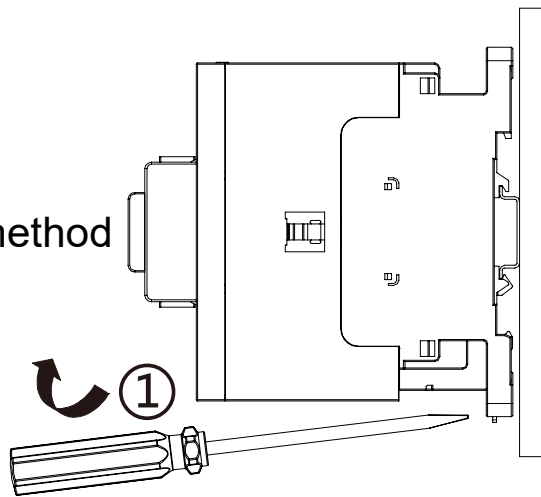
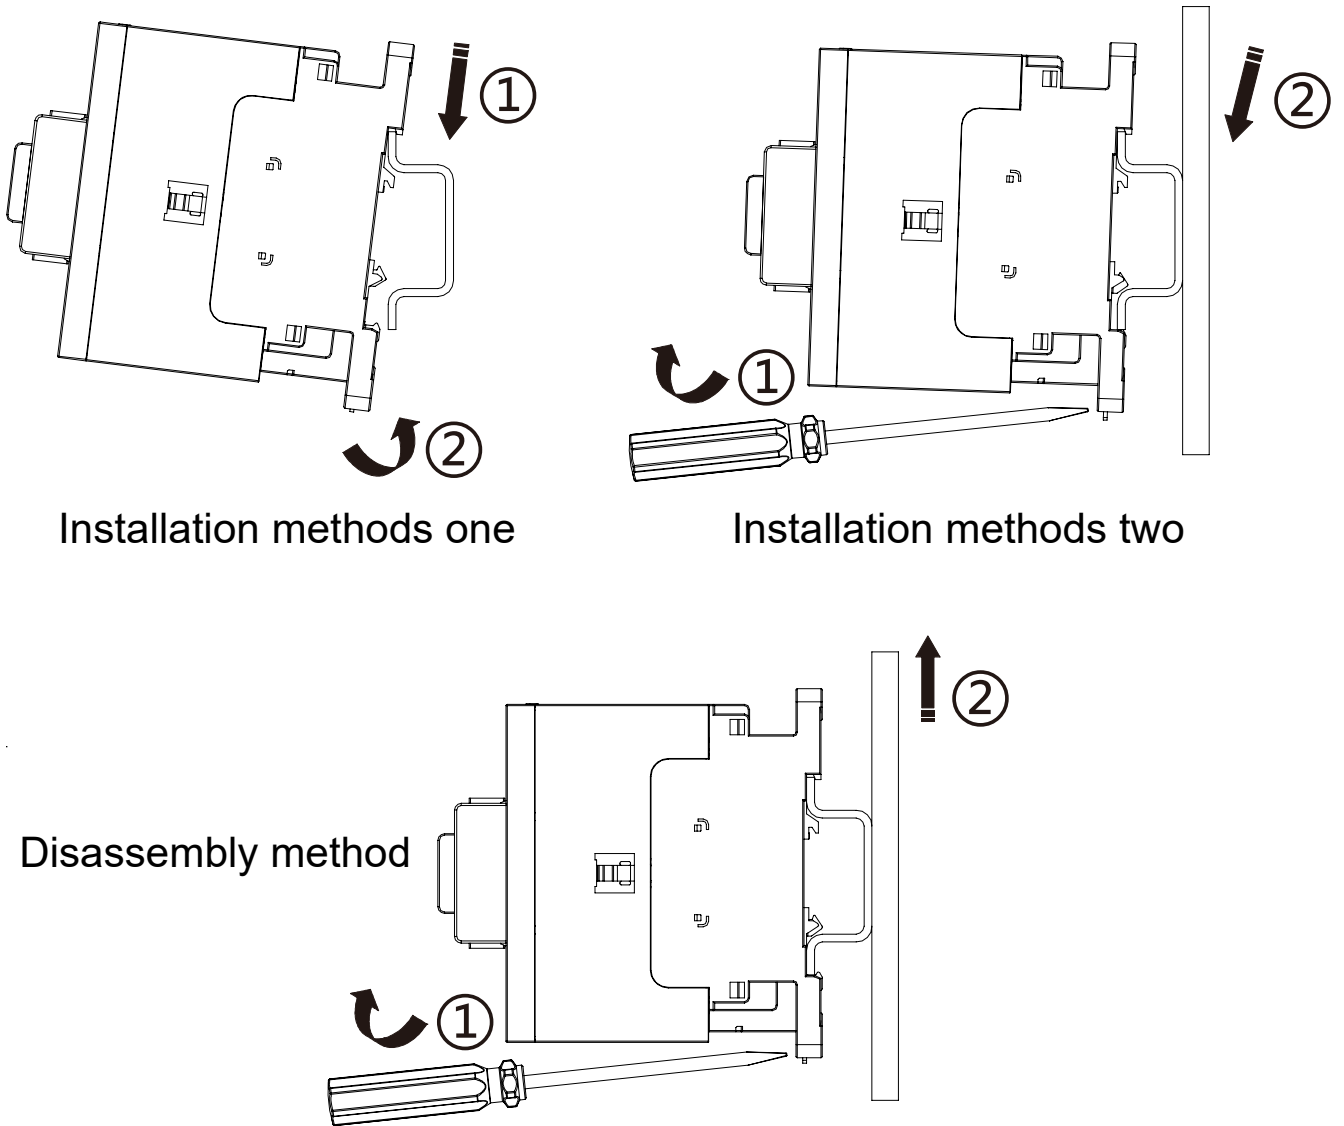

Fig. 4 HDCX-80~95 DC Installation with 35mm DIN railand disassembly methods
Fig. 5 HDCX-80~95 DC Installation with 75mm DIN railand disassembly methods
- The contactors are available in both screw and DIN rail mounting. HDCX-09~65 can be installed with 35mm DIN rail. HDCX-80~95 can be installed with 35mm DIN rail and 75mm DIN rail. Before installation, check whether the rated voltage and frequency of the coil are consistent with the control power supply. Do not use when the contactor is damaged or not securely assembled. Installation and disassembly methods are shown in Figure 2, Figure 3, Figure 4 and Figure 5.